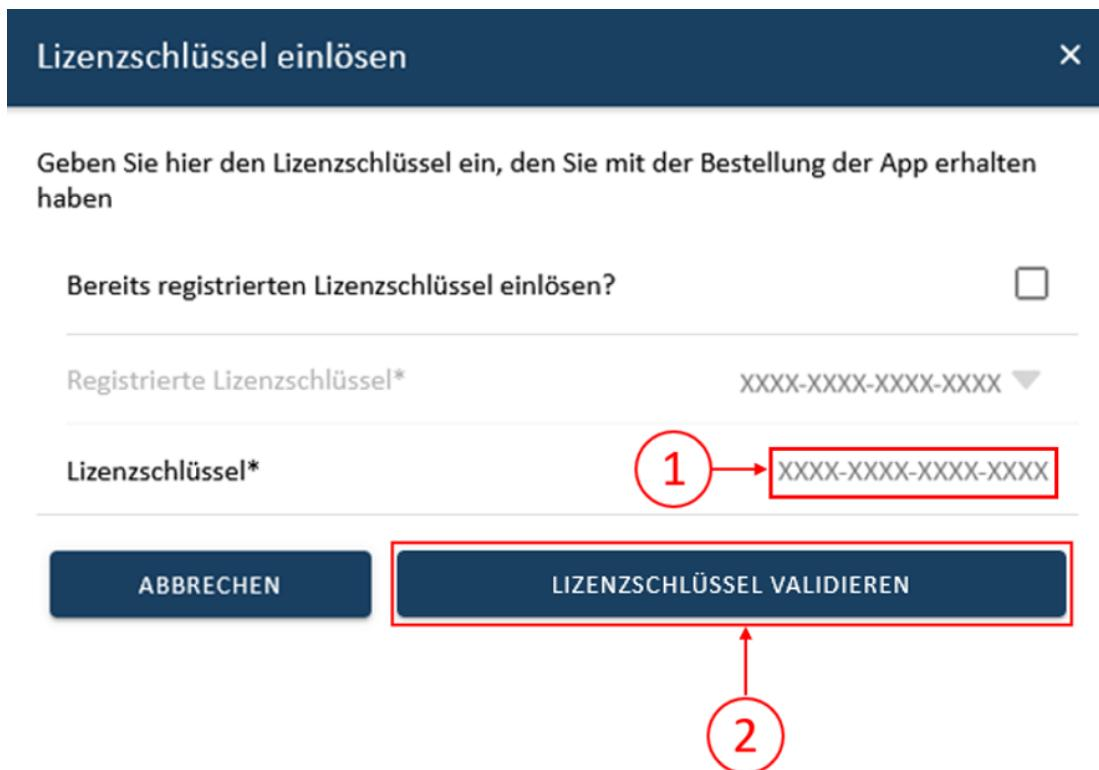

Figure 21. App installation — Variant 2: Step 5b
- Figure 21. App installation — Variant 2: Step 5b